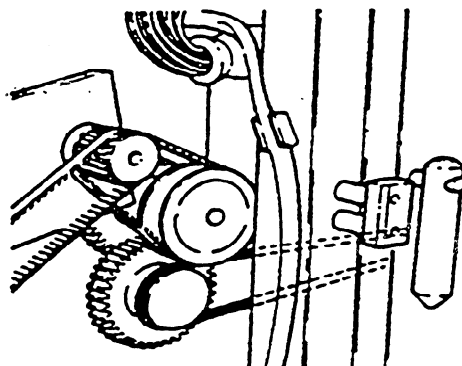

figure 26
10. Slide CONVEYOR DRIVE-BELT onto DRIVE-PULLEY in ML 700. See figure 26.